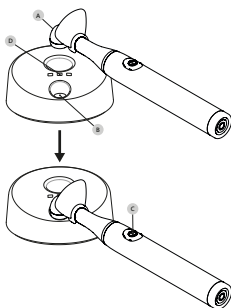

Figure 9 – Light Intensity Measurement
1. Place the tip (Figure 9 at page 17 - Ref. A) flat, on the surface of the light-intensity sensor without pressing it (Figure 9 at page 17 - Ref. B);
2. Press the on/off button (Figure 9 at page 17 - Ref. C) to switch on the lamp.